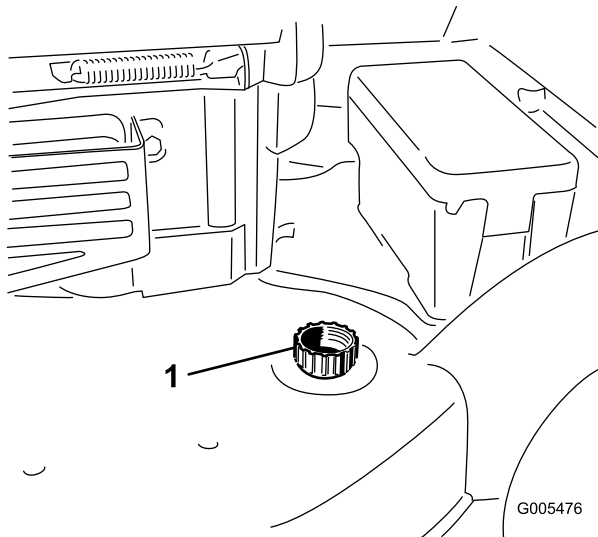

Figure 44
3. Attach a garden hose that is connected to a water supply to the washout port on the mower housing (Figure 44).